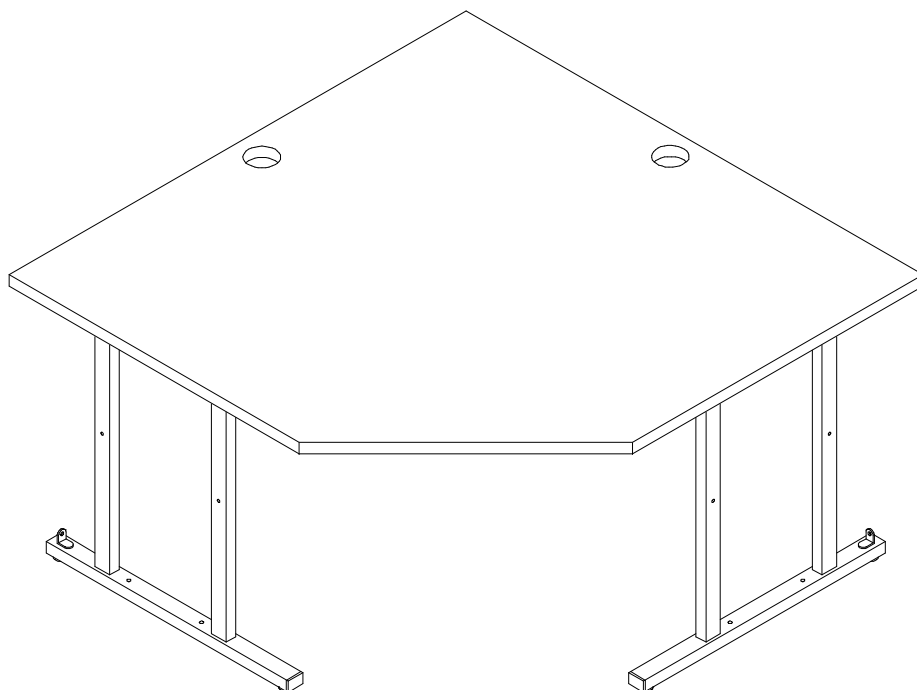

FIGURE 1A
3. With two people upright this portion of the table. **Caution: DO NOT move table until backs have been installed. See figure 1A.**